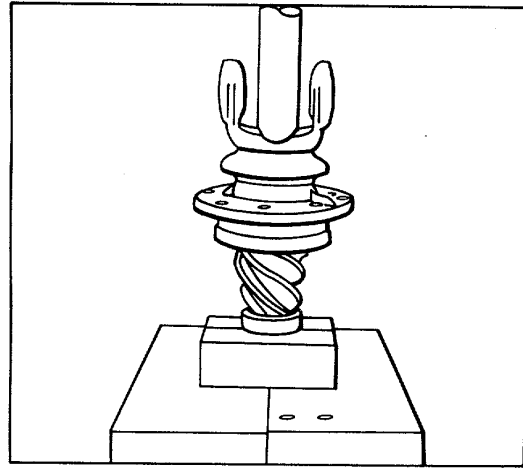

Figure 4.
15. Press yoke against forward bearing and install washer and pinion shaft nut (refer to Fig. 4).